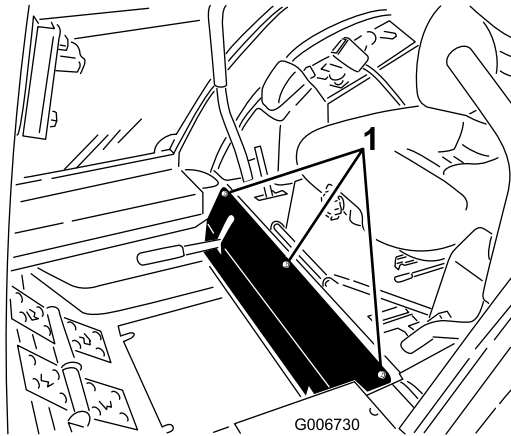

Figure 66
2. Remove the bolts securing the front panel and remove the panel (Figure 66).